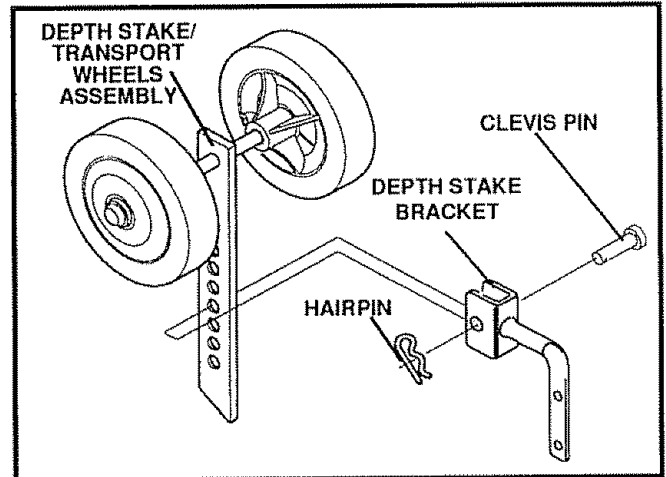

FIG. 8
- Remove the hairpin cotter from the clevis pin securing the depth stake (see Figure 8). Remove the clevis pin and adjust the depth stake upward to dig shallower or downward to dig deeper. Reinstall the clevis pin and hairpin cotter.
- The depth stake (on the back of the mini tiller/cultivator) serves a dual purpose (see Fig 8). It helps regulate the depth of the cut to a uniform level and also acts as a brake to help the operator control the speed of the mini tiller/cultivator.